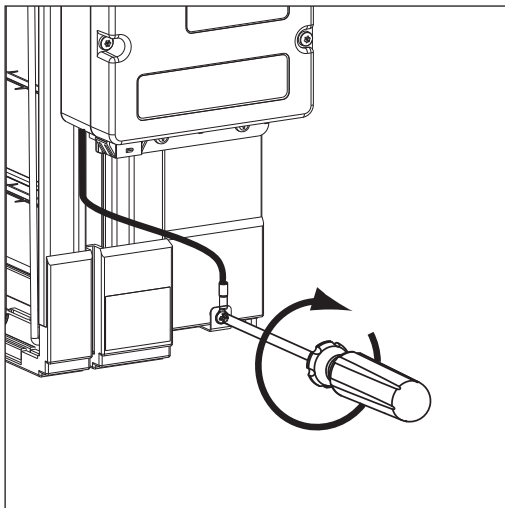

Fig. 11
- 4: Reconnect the green ground wire to the enhancement module (Fig. 11).